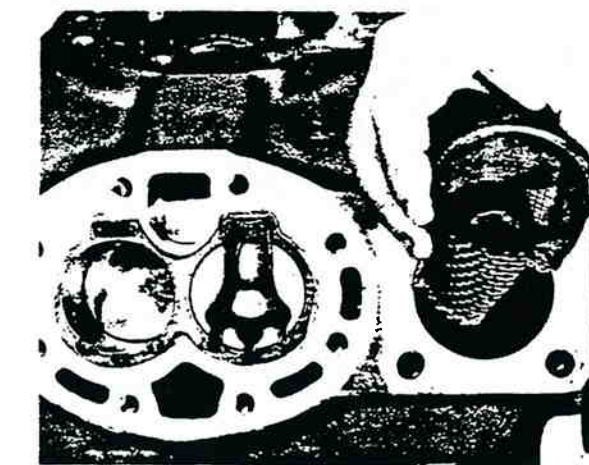

Figure 16-43: Suction Valve Installed Over Cylinders
23. Install suction valve, positioning springs on dowel pins. Assemble positioning springs with spring end bearing against cylinder deck. The spring will bow outward in the middle (figure 16-43).
30. Remove and clean the suction strainer (figure 16-43). Check it for damage. If it is damaged, replace it. Reinstall the suction strainer and valve blank-off pad using a new gasket.